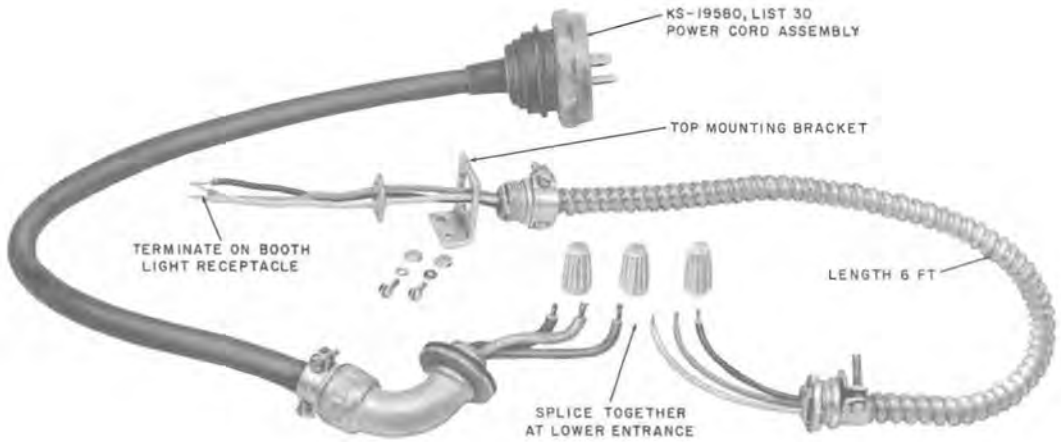

Fig. 5—KS-19580, List 31 Power Cord Group
- (b) *KS-19580, List 31 power cord group (Fig. 5):* Used for ground level entrance where a circuit breaker is not required.